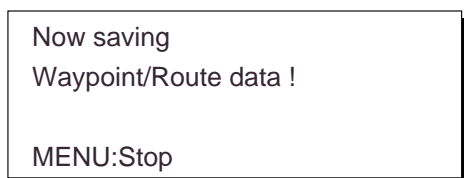

Figure 8-22
- 11) Press the [NU/CU ENT] key. The message shown in Figure 8-22 appears while data is being saved.